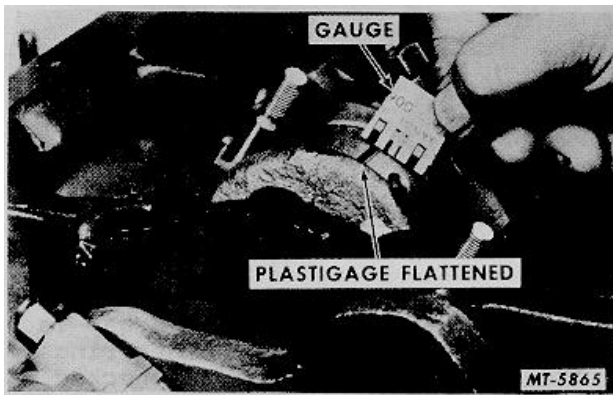

Fig. 79 Checking Connecting Rod Bearing Clearance
- d. Remove bearing cap and use Plastigage scale to measure the widest point of Plastigage (Fig. 79). This reading indicates the bearing clearance in thousandths of